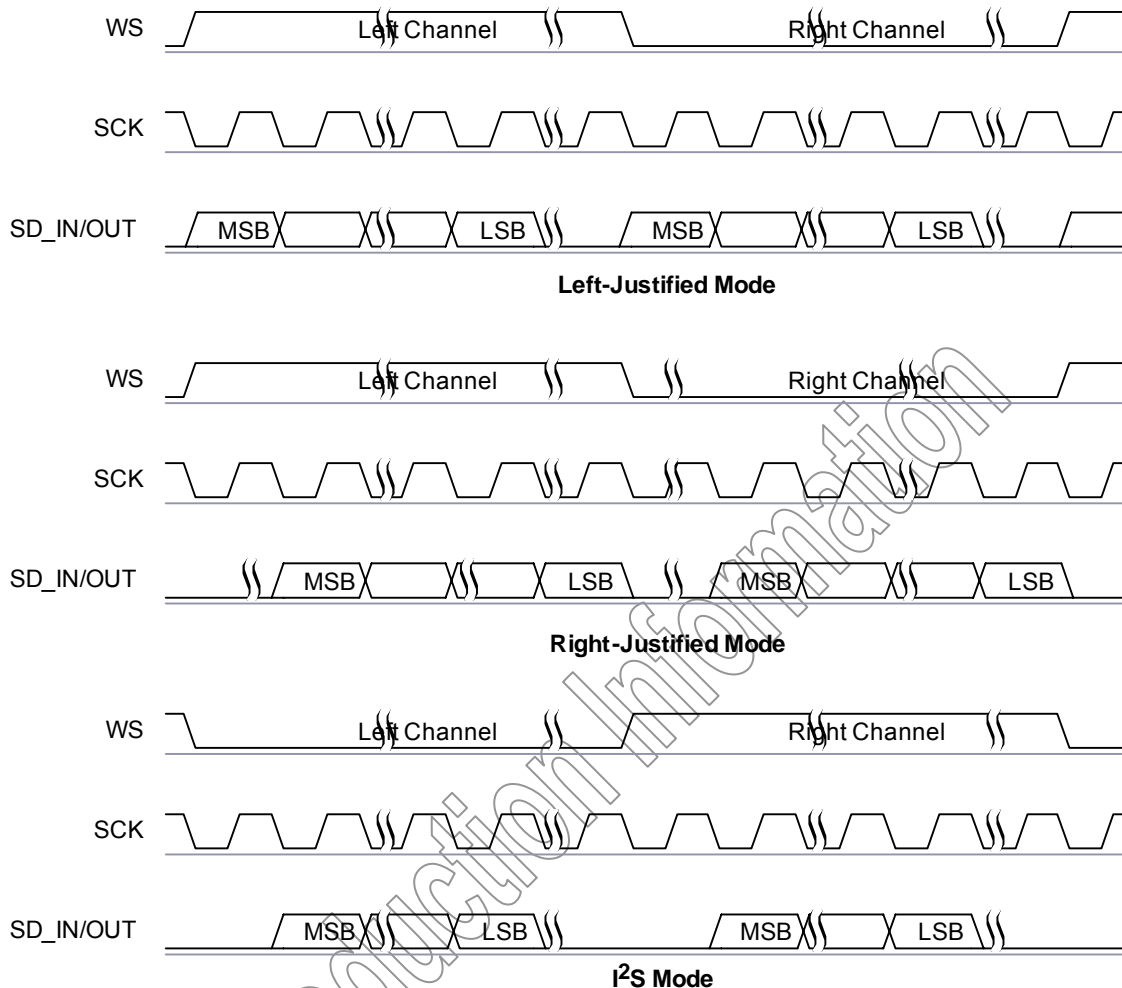

Figure 8.22: Digital Audio Interface Modes
The digital audio interface supports the industry standard formats for I2S, left-justified (LJ) or right-justified (RJ)(1). The interface shares the same pins as the PCM interface as shown in Table 6.1 and the timing diagram is shown in Figure 8.22.